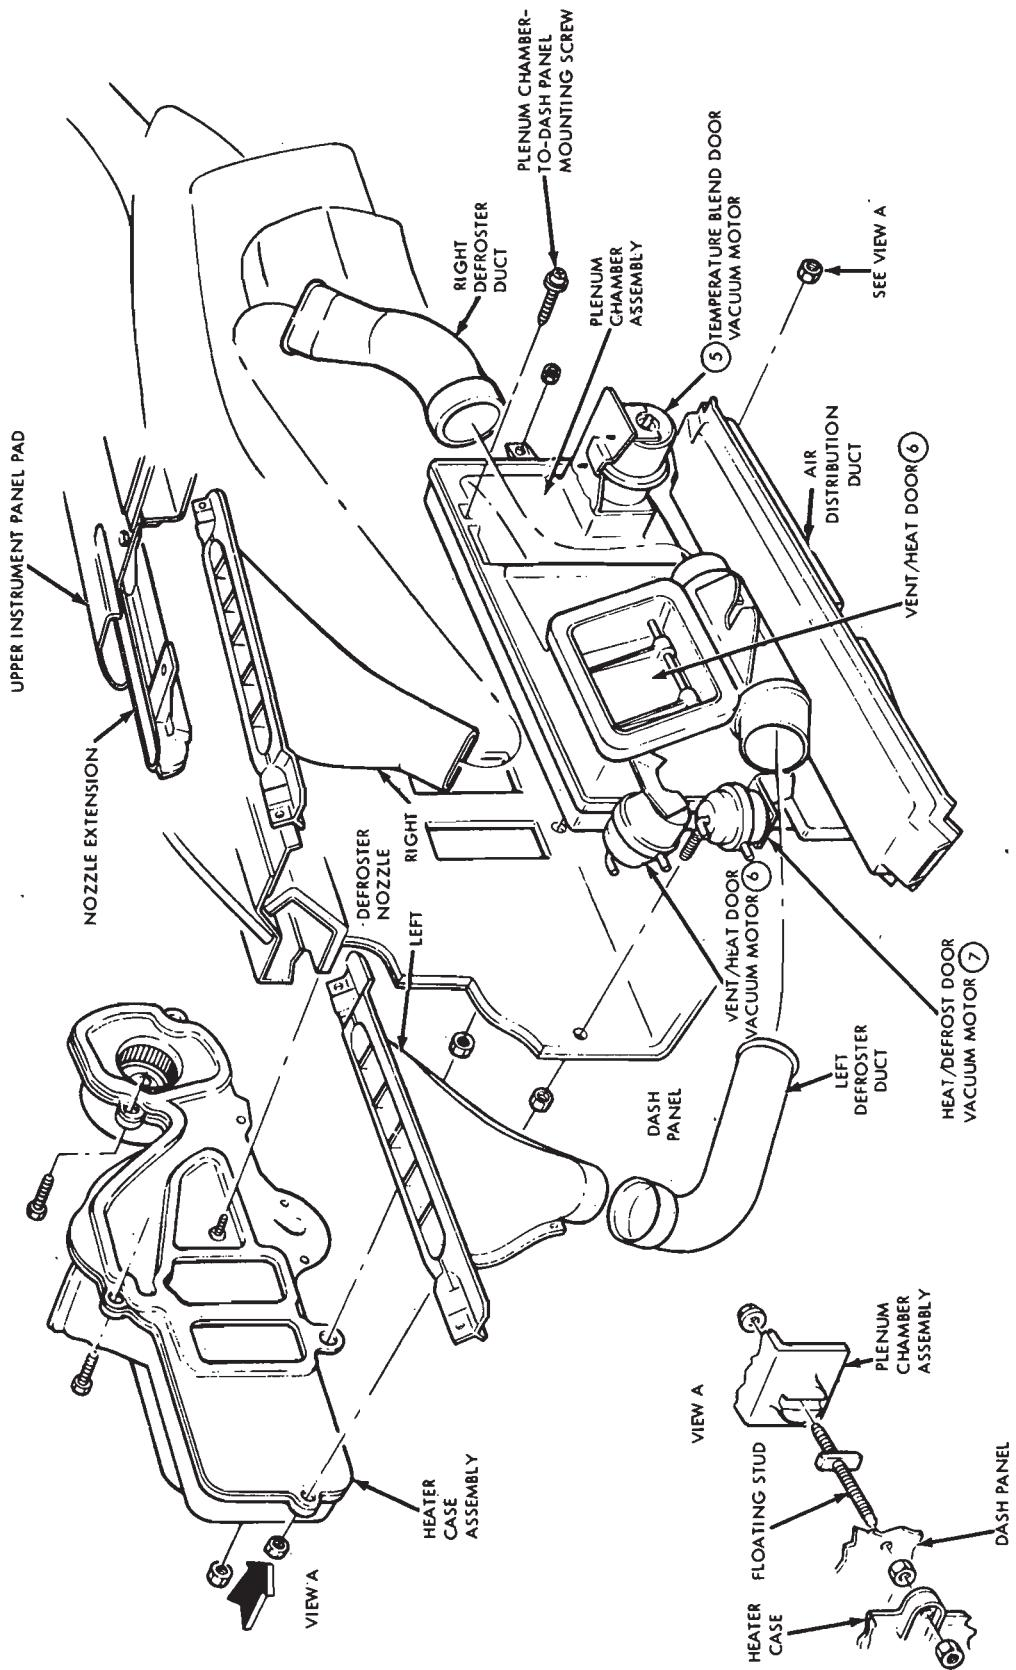

FIG. 50—Standard Heater System—Lincoln Continental
move each nozzle (Fig. 50).
1. Insert each defroster nozzle through the opening. Make certain that each defroster air duct is positioned properly on the defroster nozzles and over the right and left plenum chamber air outlet adaptors (Fig. 50).
11. Disconnect the Temperature Blend Door Vacuum Motor (5) vacuum hose (tan) (Fig. 50).
12. Disconnect the vent/heat door vacuum motor (6) vacuum hoses, upper (6a) orange and side (6b) blue.
13. Disconnect the heat/defrost door vacuum motor (7) vacuum hoses, upper (7a) yellow and side (7b) red.
14. Remove one plenum chamber-to-dash panel mounting screw and washer assembly (upper right corner) (Fig. 50).
2. Move the plenum chamber assembly up and to the left, under the instrument panel, and position it on the three mounting studs (Fig. 50).